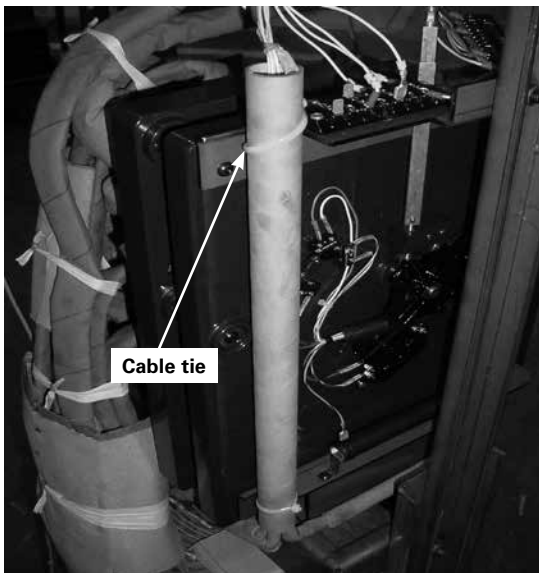

Figure 3. Control cable fastening
2. Use a pair of wire cutters to cut and remove the cable tie from the control winding hard insulation tube and tap changer top bracket assembly. See Figure 3.
29. Place the control winding hard tubing insulation against the tap changer top bracket and bundle snugly with a cable tie (item 3). See Figure 3.